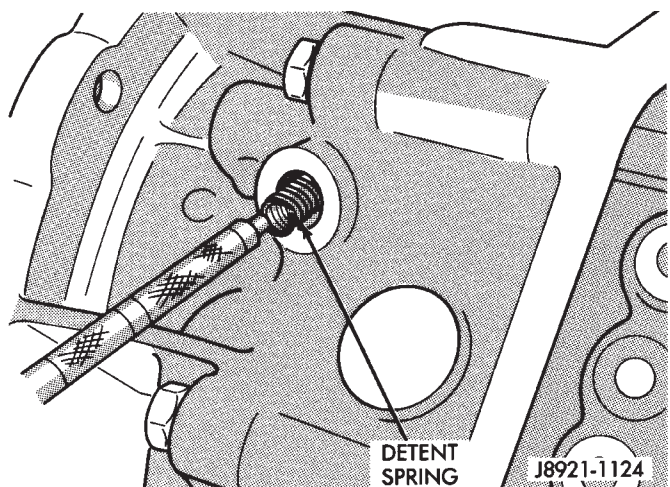

Fig. 121 Installing Detent Spring
(19) Install detent spring (Fig. 121).